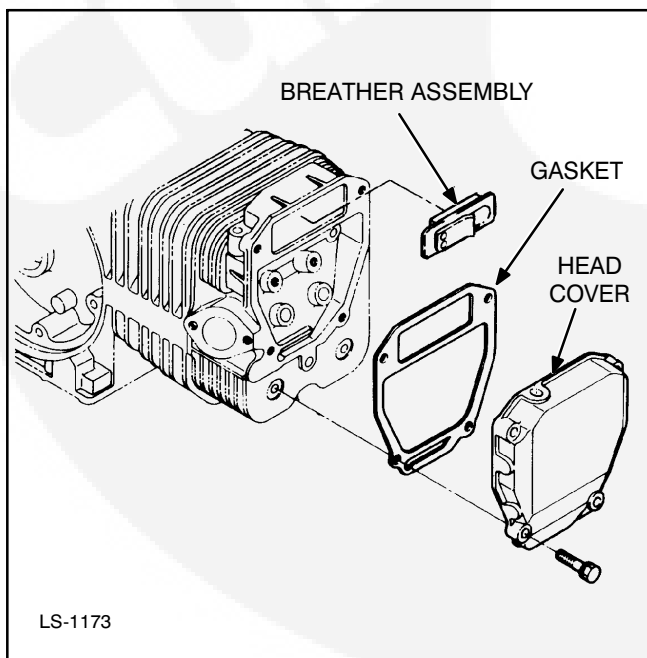

FIGURE 10-3. HEAD COVER REMOVAL
1. Use a 10 mm socket wrench to remove head cover mounting bolts and pull off head cover. See Figure 10-3.